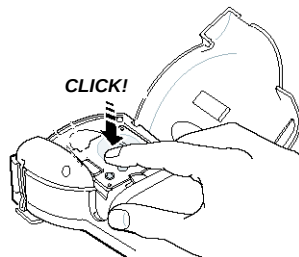

Figure 6
4. Insert the cassette with the label and ribbon positioned between the print head and pinch roller. See Figure 6.